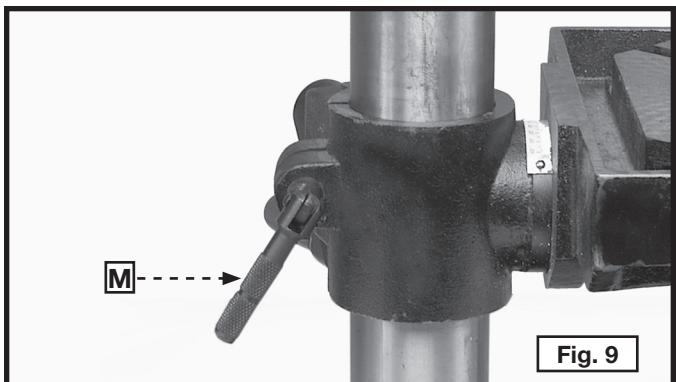

Fig. 9
7. Thread the clamp handle stud (M) Fig. 9 in the hole in the rear of the table bracket.